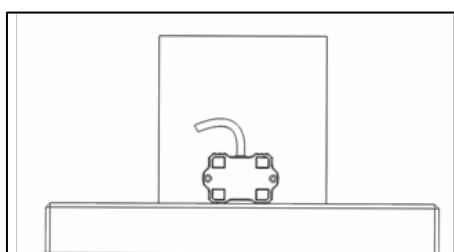

Figure 44. Tilt Sensor Module Position of Calibration Step 2
6. Locate the sensor module as following Figure 44. The sensor is ready for user to perform calibration step 2